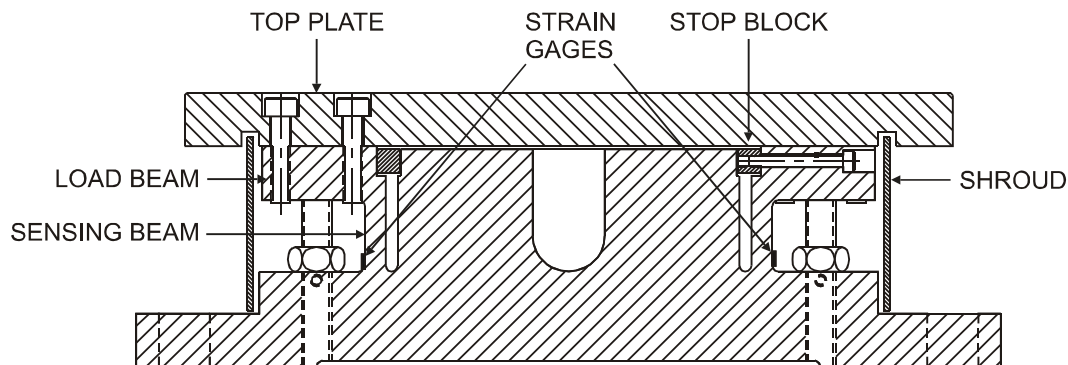

Figure 1 - CUT-AWAY VIEW OF MODEL UPBH TRANSDUCER
1.2 CONSTRUCTION AND MECHANICAL OPERATION (see Figure 1)